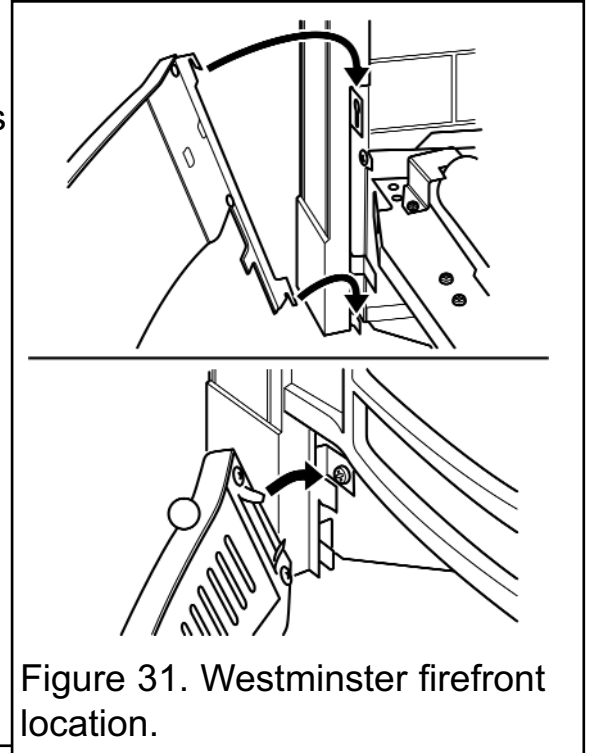

Figure 31. Westminster firefront location.
1. The Westminster firefront hooks onto the fascia at four points. Locate the firefront casting onto the fascia by locating the upper hooks and lower hooks as in figure 31.
2. Locate the lower firefront to the firefront casting as in figure 31.